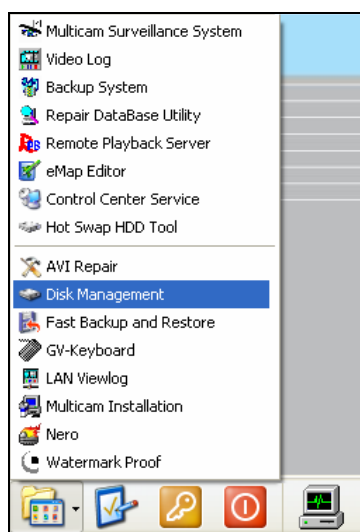

Figure 49
- A. On the GV-Desktop, click the **Programs** button, and select **Disk Management**. See Figure 49.